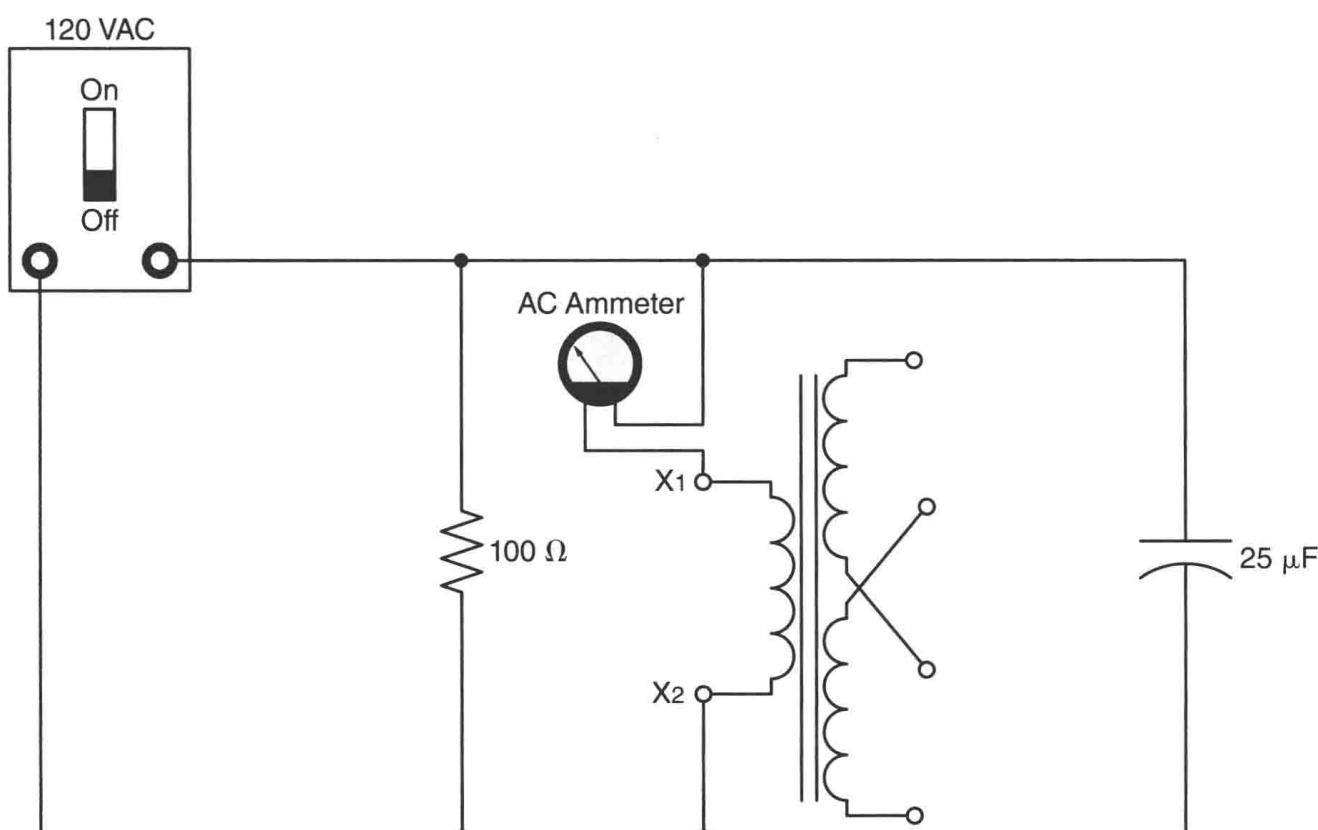

Figure 17-5 Measuring current through the inductive branch.
8. Reconnect the circuit to measure the current flow through the inductive part of the circuit (Figure 17-5).